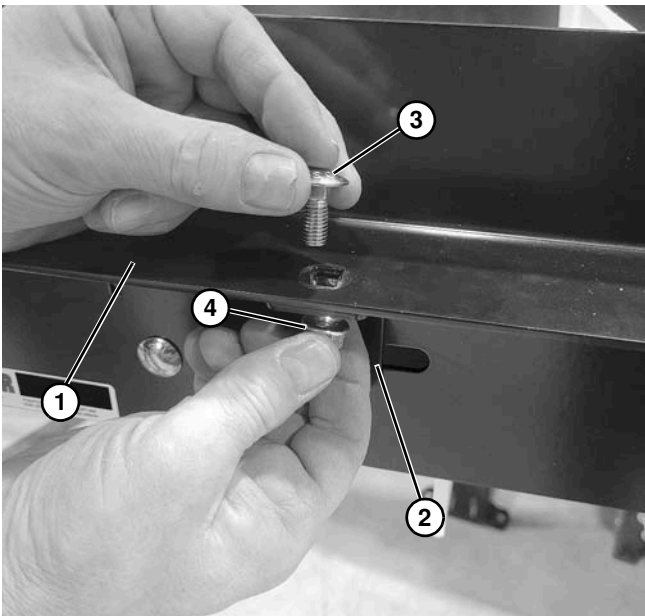

Figure 55
7. Install cleated guiding (**Figure 55, item 1**) onto mounting bracket (**Figure 55, item 2**) with carriage bolt (**Figure 55, item 3**) and nut (**Figure 55, item 4**).